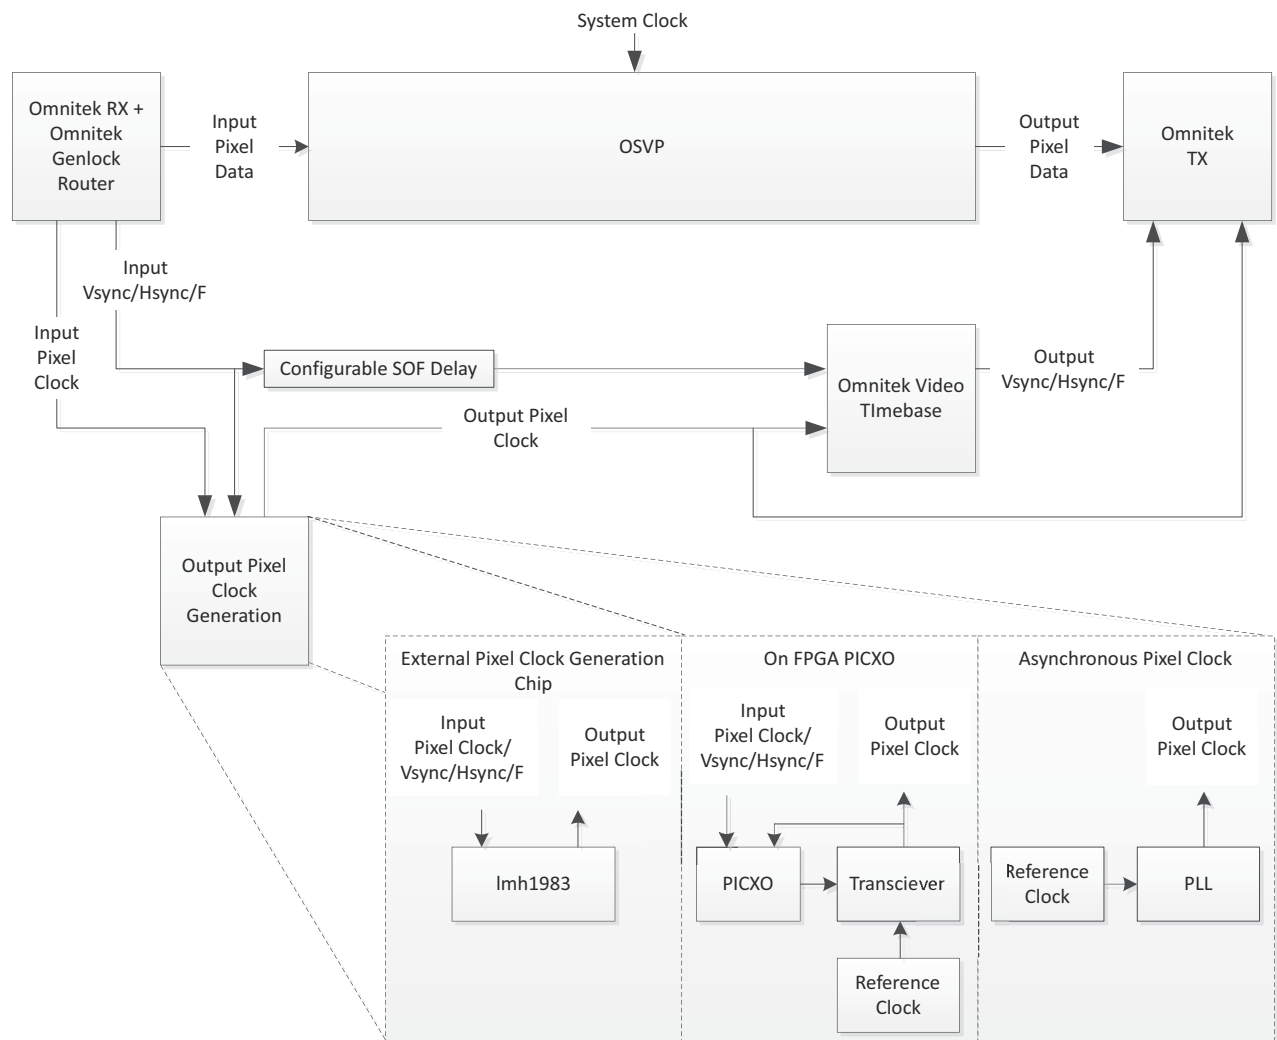

Figure 7: System Architecture
1. Adjust the output clock frequency or phase to track the input clock ensuring they don't drift apart. This is the method used by the External Pixel Clock Generation Chip and On FPGA PICXO options shown in Figure 7 and is referred to as *Hard Locking*.
2. Frame Synchronization without adjusting the output pixel clock. This is the method used by the Asynchronous Pixel Clock as shown in Figure 7. It can take one of two forms: